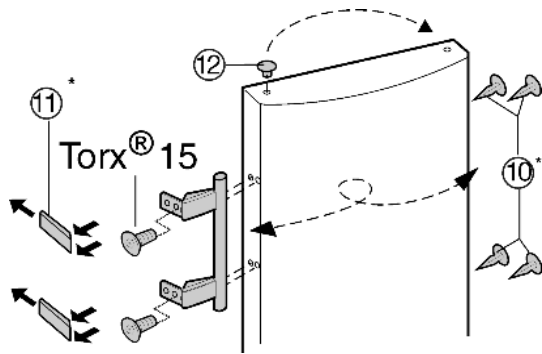

Fig. 9
- ▶ Lift the stopper Fig. 9 (12) out of the door bearing bush and transfer it.
- ▶ Detach door handle, stoppers Fig. 9 (10) and pressure plates Fig. 9 (11) and transfer to the opposite side.